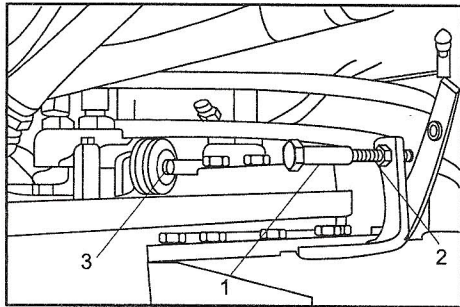
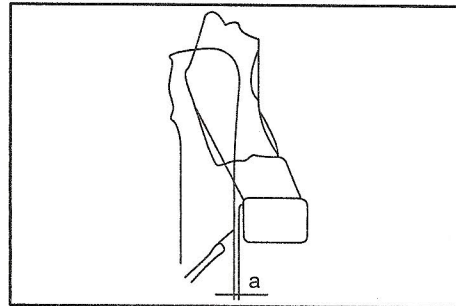

Fig. 05-26
Fig. 05-27
- (1) Start up the engine, and operate the steering system to have the machine front and rear frame be in alignment.
- (2) check the fastening tension of the position-limit bolt (1) and locking nut (2) (Please see Fig. 05-26).
- (3) Start up the engine, and measure the clearance between the position-limit bolts of both front and rear machine frames while turning the steering wheel to both left and right to its most limit position.
- △ When measuring such clearance, check the end-surface of steering valve (3) to see if it is in good touch with the position-limit bolts.
- 1) Screw in the position-limit bolt (1) to get it with minimum length.
- 2) Let the engine run at low idle speed, and turn the steering-wheel slowly in such a way that the end-surface of the bolt (1) moves towards the steering valve (3) (Please see Fig. 05-26).
- 3) Turn the bolt till it could touch the end-surface of the steering valve (3).
- 5) Fix the bolt (1), with a locking nut (2), to a support bracket.
- △ During adjusting the steering control, you should start up the engine, and at the same time measure the clearance (a) between the front and rear frames when you turn the steering wheel to its maximum limit positions on both left and right sides, so as to avoid any conflict between any machine parts (See Fig. 05-27).
- △ When measuring such clearance, also check if the end-surface of steering valve (3) could touch the bolt (1).